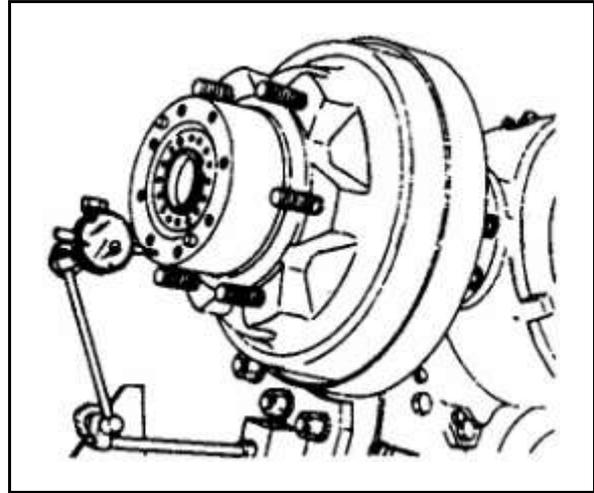

Fig.3-7
- 8) Measure axial play of wheel hub to see if it is within specification. Axial play is less than 0.10mm (refer to Fig.3-7).